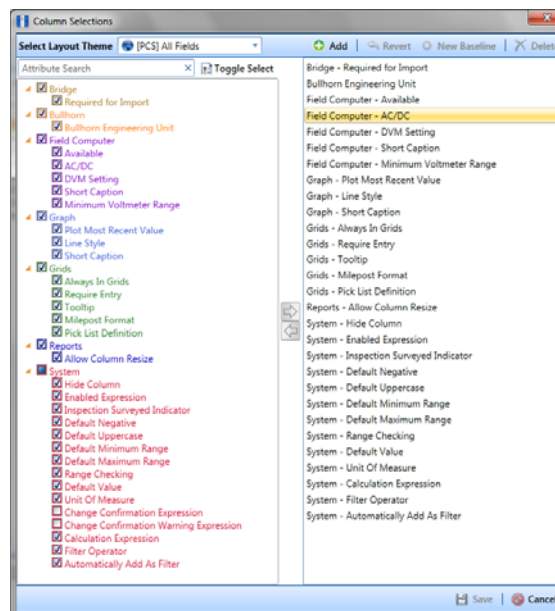

Figure 2-19. Column Selections
- 2 Click  **Customize** to open the *Column Selections* dialog box (Figure 2-19).